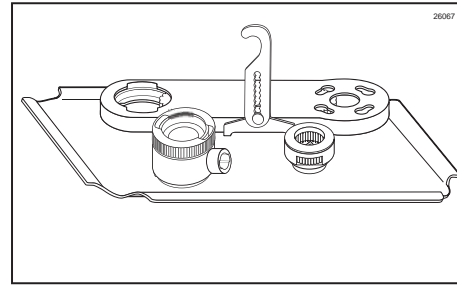

Figure 9
3. Remove each part from the sanitizer solution. Place the items on a sanitary tray to air dry. (See Figure 9.)